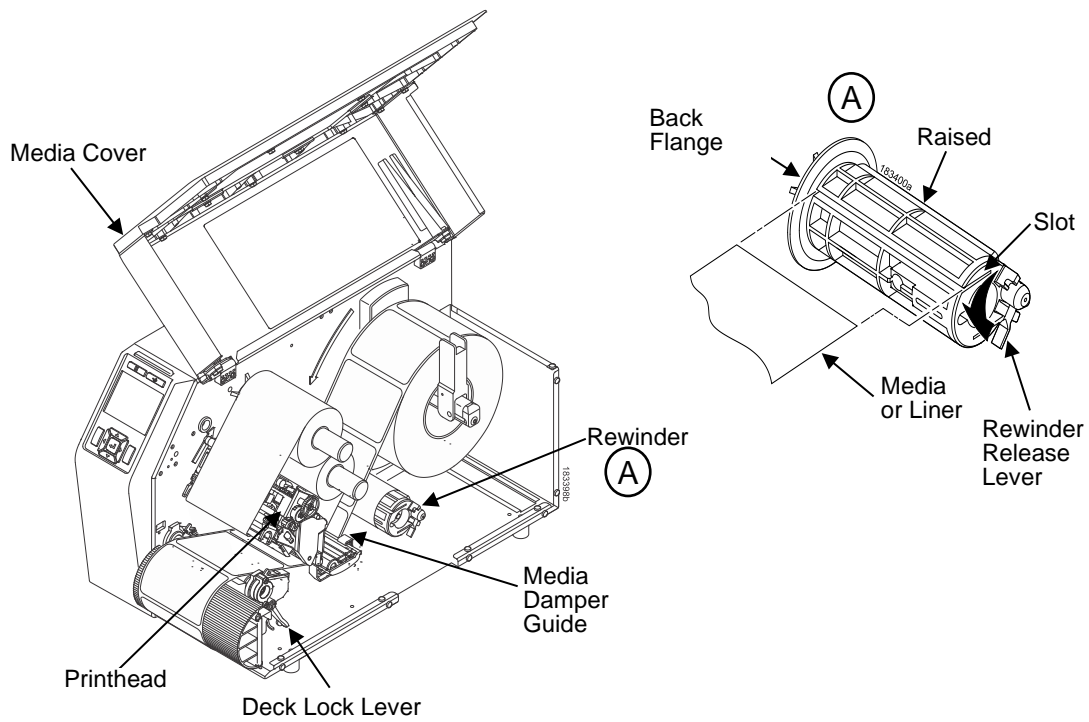

Figure 1 Loading Media
6. Slide the Media Damper Guide, ref *Figure 1 Loading Media* page 32, to the outer edge of the media.
1. Open the media cover, (ref *Figure 1 Loading Media*).